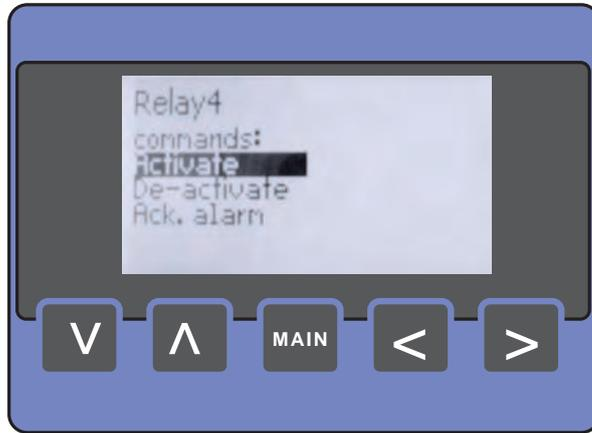

FIGURE 4-12
- On selection of an available function, the [\[command list\]](#) screen is presented (see FIGURE 4-12). You can navigate through the